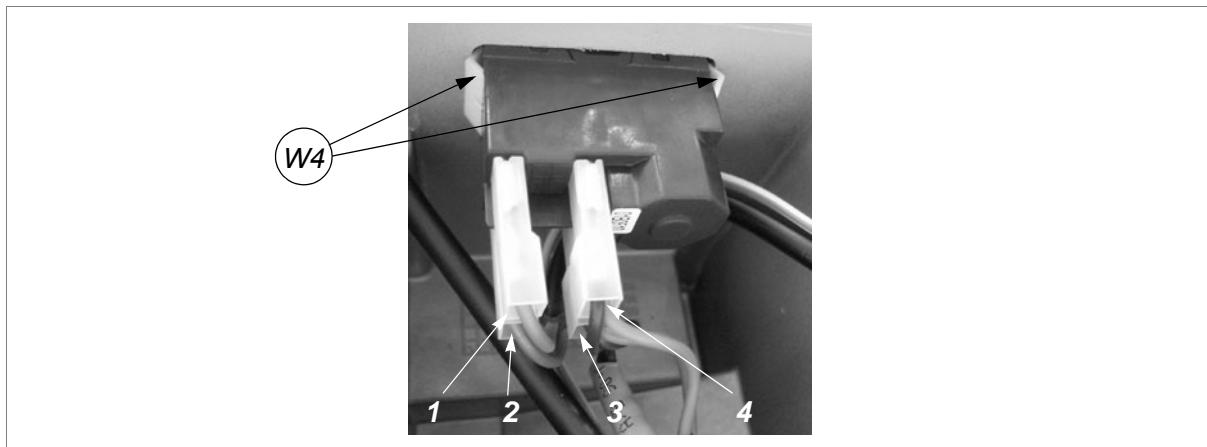

Fig. 33
- 3) Detach the various connectors (1, 2, 3, 4) paying careful attention to their positions (fig.33).
- 7) Replace the bottom safety plate and fix with the 7 screws (W) and 2 feet. Fit the swarf tray.